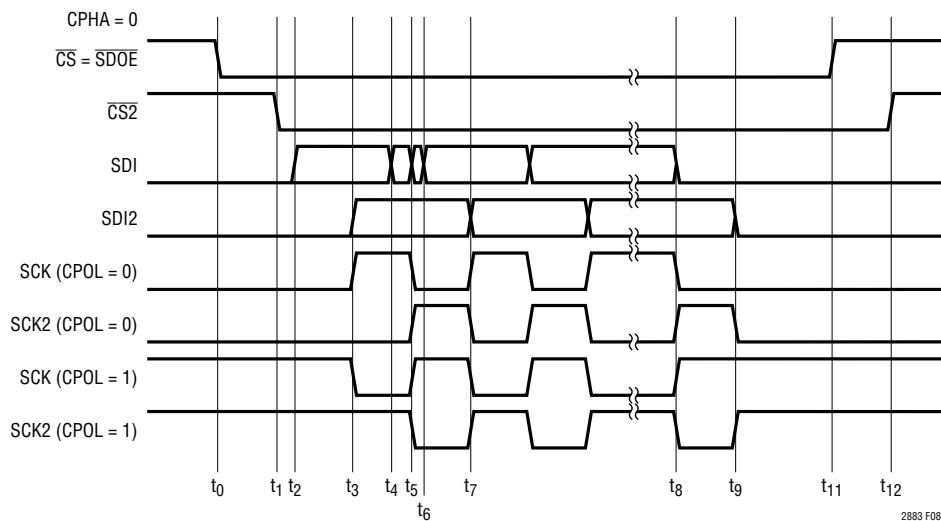

Figure 8. SPI Timing, Unidirectional, CPHA = 0
Maximum data rate for single direction communication, master to slave, is 8MHz, limited by the systems encoding/decoding scheme or propagation delay. Timing details for both variations of clock phase are shown in Figures 8 and 9 and Table 4.
- SDI and SCK set-up data transition occur within the same data packet. Referencing Figure 6, SDI can precede SCK by up to 13ns ($t_7 \rightarrow t_8$) or lag SCK by 3ns ($t_8 \rightarrow t_9$) and not violate this requirement. Similarly in Figure 8, SDI can precede SCK by up to 13ns ($t_4 \rightarrow t_5$) or lag SCK by 3ns ($t_5 \rightarrow t_6$).